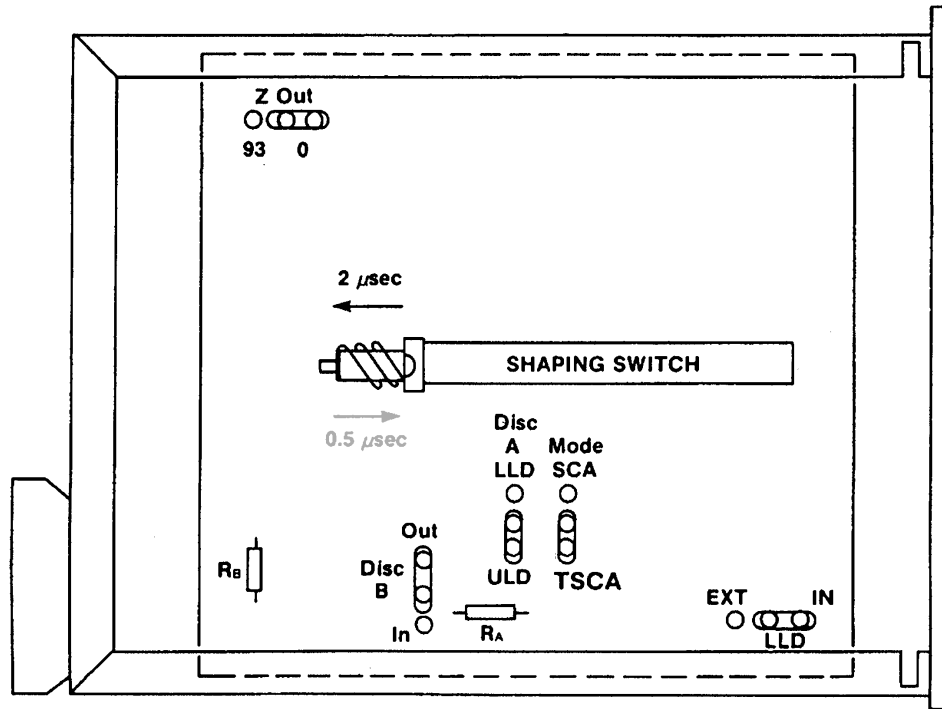

Figure 4 Internal Controls
1. Prior to installation and setup, the internal jumper plugs should be set to their desired positions. See Figure 4 (Internal Controls) on page 6.